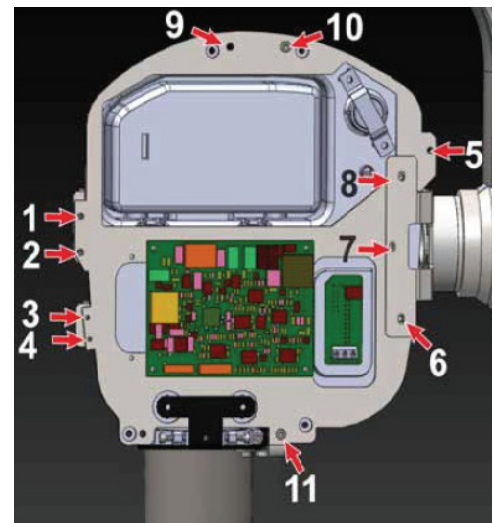

Figure 50
- To remove the HV Tank from the clamp, remove the 5 (M3X6 Hex. socket button head) screws (from 1 to 5 as shown in Figure 50) using 2mm allen key.
- Remove 3 (M3X6 Hex. Soc. Head cap) Screws (From 6 to 8 as shown in Figure 50) on the top of the clamp near Tube head arm using 2.5mm allen key.
- Remove 3 (M3X14 Hex Soc. head cap) screws (from 9 to 11 as shown in Figure 50) along with M3 plain washers & M3 nut using 2.5mm allen key and 5.5mm Nut driver.
- Using 2.5mm allen key & 5.5mm nut driver fix 3 Hex. Soc. head cap screws(M3X16) with M3 plain washers & M3 nuts (at the locations 9 to 11 as in Figure 50) such that the screw along with M3 plain washer should be inserted from bottom and nut along with M3 plain washer should be on the top of the HV Tank.
- Fix 5 button head screws(M3X6) using 2mm allen key(at the locations 1 to 5 as in Figure 50).
- Fix 3 Hex. Soc. Head cap screws(M3X6) on the top of the clamp near Tube head arm at the locations (6 to 8 as in Figure 50) using 2.5 mm Allen key.